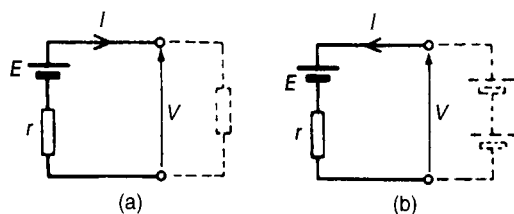

Figure 13.30
- (iii) For the circuit shown in Fig. 13.30(a) representing a practical source supplying energy, $V = E - Ir$, where E is the battery e.m.f., V is the battery terminal voltage and r is the internal resistance of the battery (as shown in Section 4.6). For the circuit shown in Fig. 13.30(b),